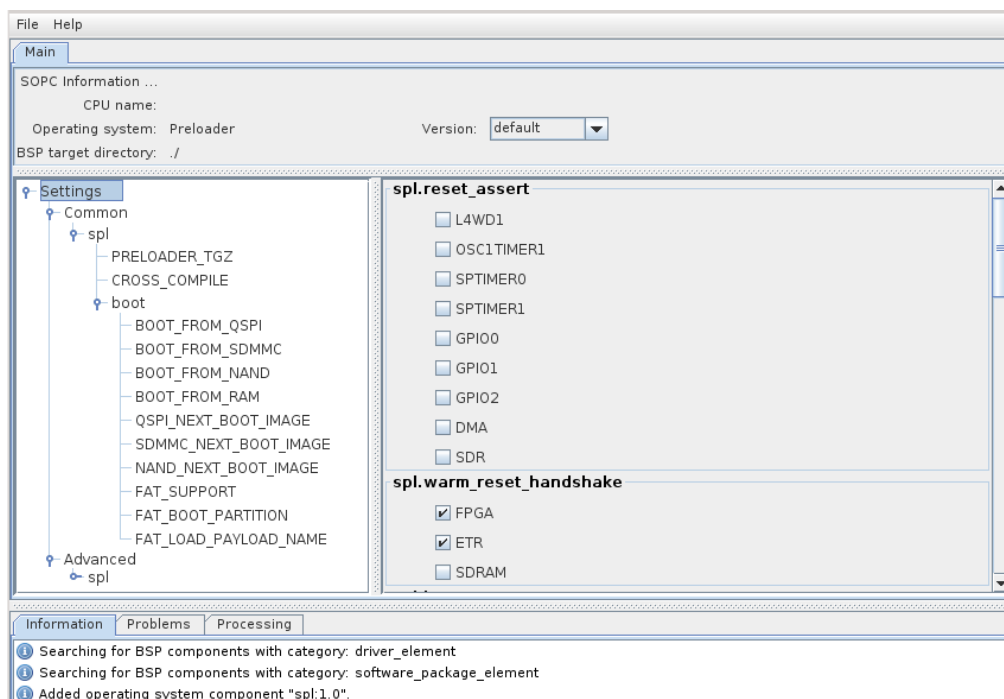

Figure 8-26. Preloader Settings Dialog
- c. Press the “OK” button. You should then arrive on a page with many settings, as shown on Figure 8-26. Take some time to read through them to see what the preloader has the ability to do.
6. On the main settings page of Figure 8-26, we will only need to modify 3 parameters for our design.